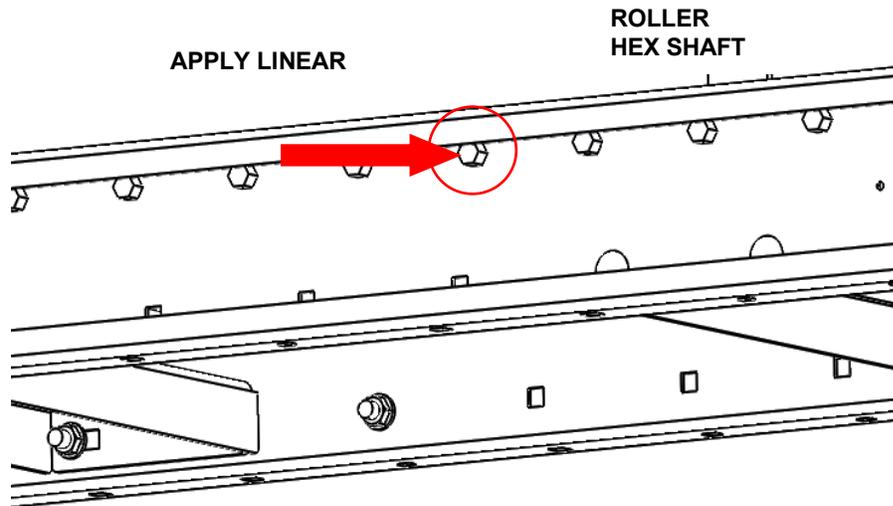

Figure 5: Roller Removal
3. Locate roller needing replacement and apply pressure on one end of the hex shaft with a small diameter punch or similar tool until the shaft clears the frame. Be careful NOT to apply a side load to the hex shaft. (Refer to Figure 5)